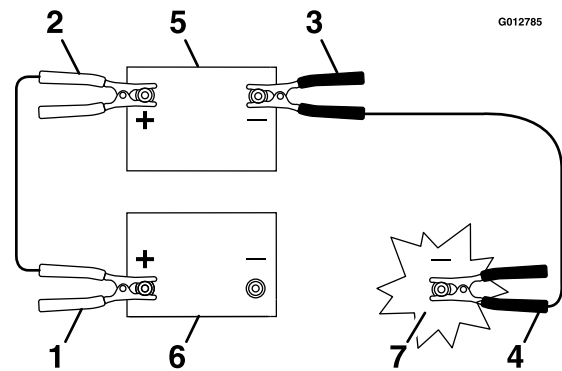

Figure 60
3. Connect the positive (+) cable to the positive (+) terminal of the discharged battery that is wired to the starter or solenoid as shown in Figure 60.